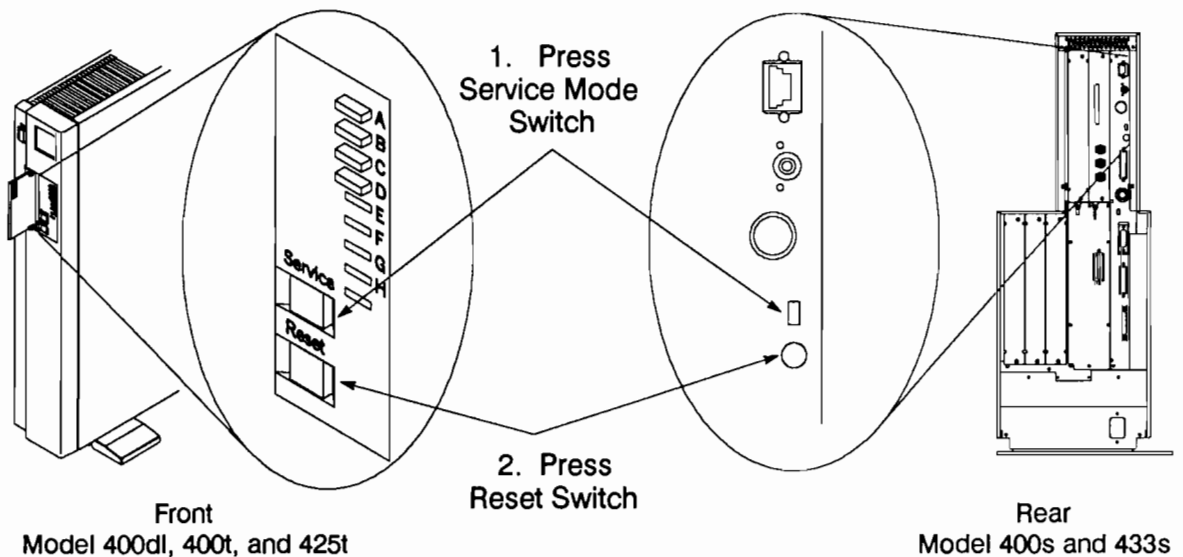

Figure 4-2. Starting a Workstation in Service Mode
2. Before the system finishes the self tests, press the Service mode switch to set the system to Service mode (the Service LED on the system's front panel lights). Then press the Reset switch as shown in Figure 4-2. Press the <RETURN> key until the screen displays the Mnemonic Debugger (MD ">" prompt).